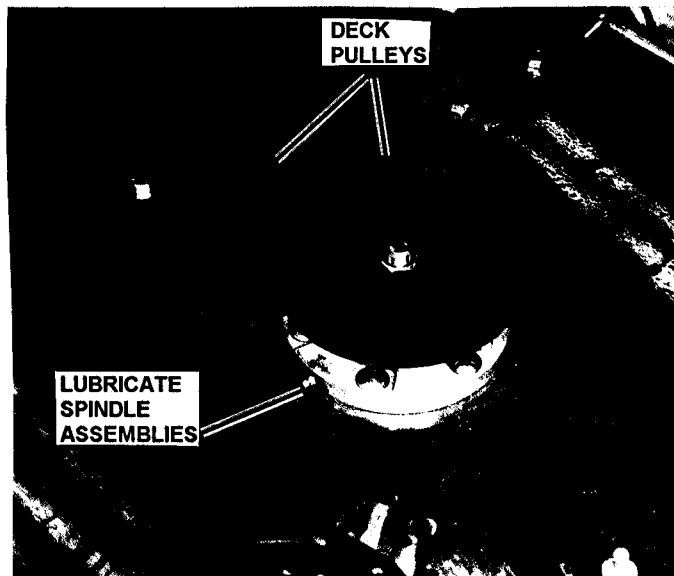

FIGURE 3.5
- b. Remove cover to gain access to lubrication fitting located on the top of deck below deck pulleys. Lubricate with Kendall NLGI No. 2 lithium grease or equivalent, from a grease gun. See Figure 3.5.